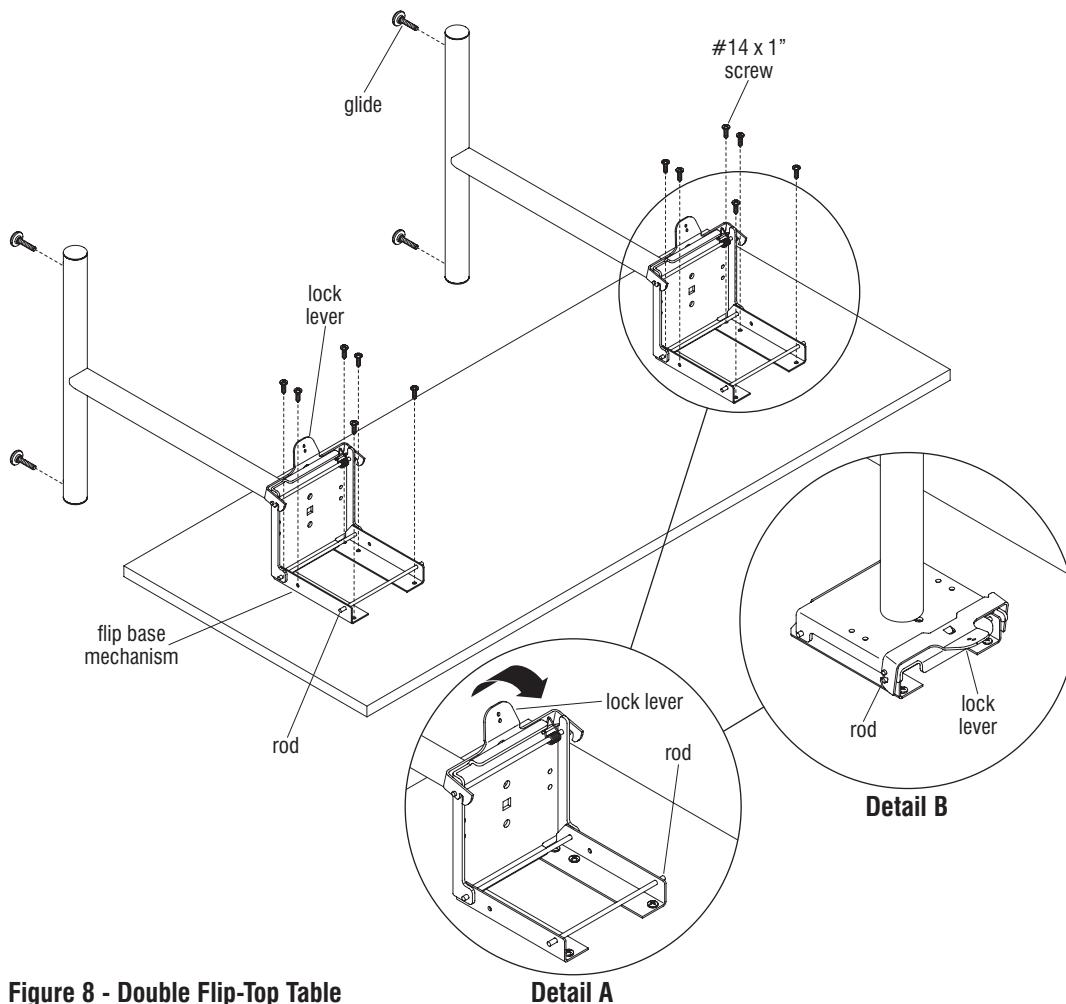

Figure 8 - Double Flip-Top Table
3. Unlock and open flip base mechanisms, position base assemblies on underside of table top, aligning holes in base assemblies with pre-drilled holes in table top. Attach each base to the top using four #14 x 1" screws in the four front holes (Figure 8 & Detail A).
5. Finally, insert and tighten two #14 x 1" screws to the back of bases, Insert glides into base feet and stand table upright (Figure 8).